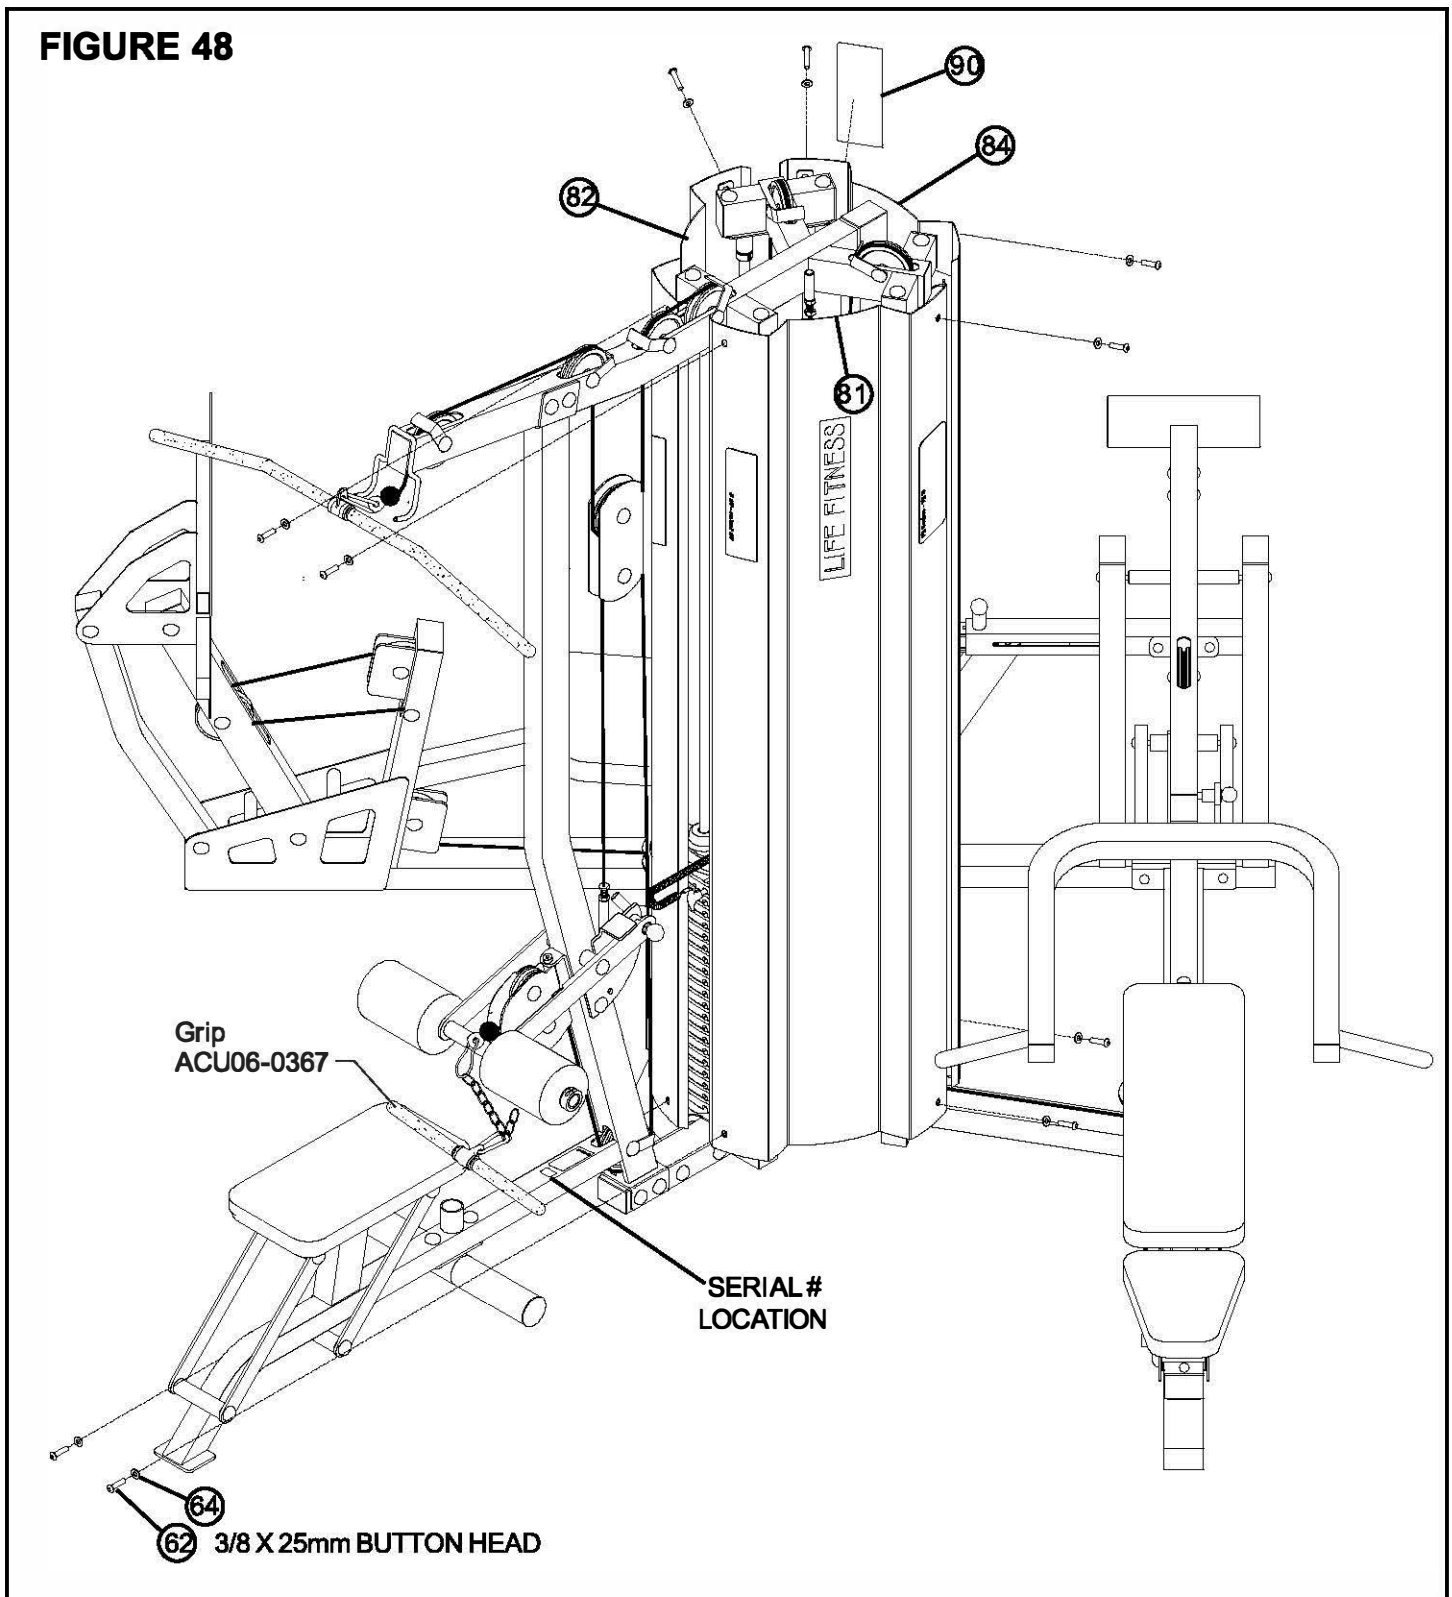

**FIGURE 47**
- If upon completion of assembly, the HEAD PLATE (36) does not sit on top of the first WEIGHT PLATE (34), push the HEAD PLATE (36) down, insert the WEIGHT STACK PIN (38) and perform several repetitions. This will relax the cable system and prevent the HEAD PLATE (36) from lifting up. See FIGURE 47.
- If after completing the previous step, the HEAD PLATE (36) still does not sit on top of the first WEIGHT PLATE (34) or if there is excess slack in the cable system, adjust the threaded ends of the CABLES attached to the HEAD PLATE (36) and the 3/4 X 3-1/8" TAPPED SHAFT (30) accordingly and retighten the jam nuts. See FIGURE 47.
- For maximum performance, the HEAD PLATE (36) should just barely sit on the top WEIGHT PLATE (34).